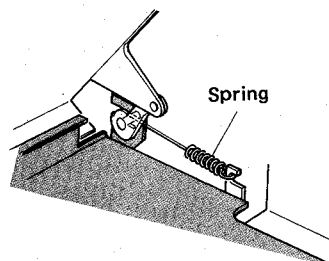

Fig. 3
1) Remove the spring. (See Figure 3.)
- * Make sure that the position of the spring is correct. (See Figure 3.)